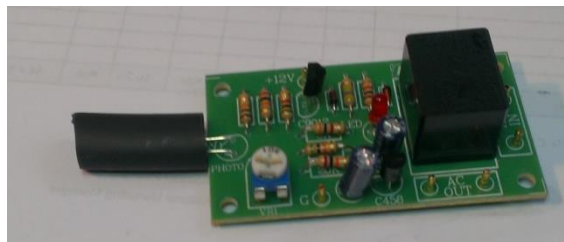

Fig 5 A light shield installed over the Photo Transistor. (In this case we have used a piece of “Heat shrink” insulation tube).
- a. Refer to Figure 5 for a possible suggestion.